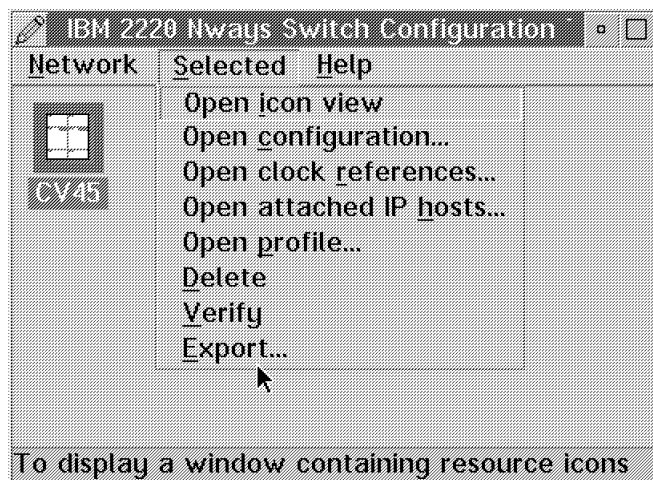

Figure 18. Export the Working configuration.
- \_\_\_ 5. Close the *NWays Switch Configuration Tool* window. (Figure 18 on page 14.)